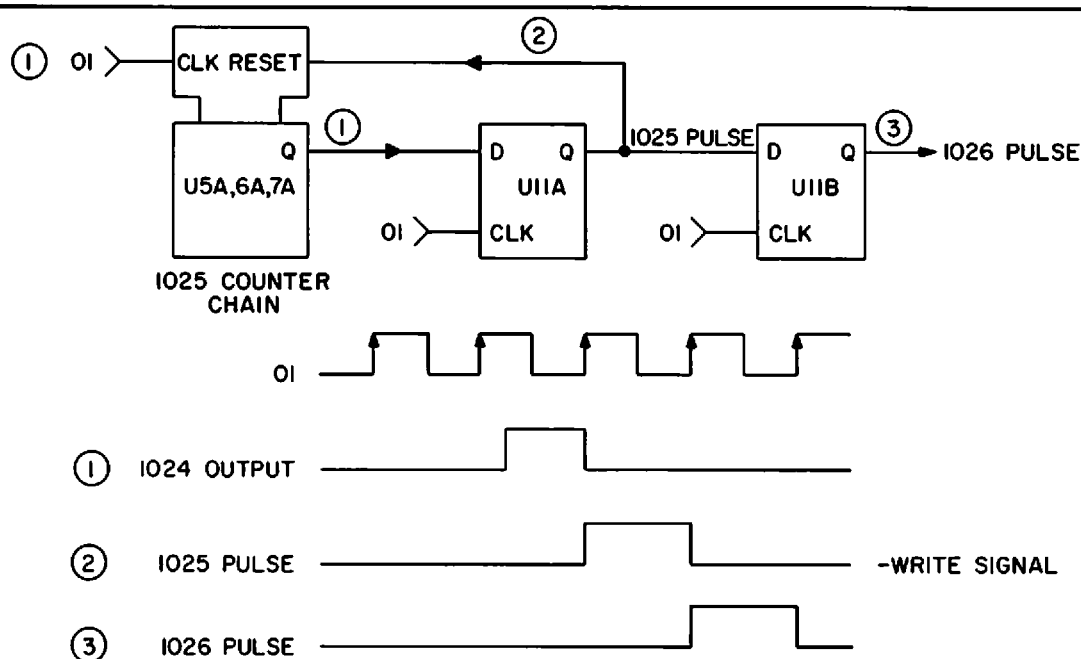

Figure 2-21
2.3.5.3 1025 Counter (Fig. 2-21)